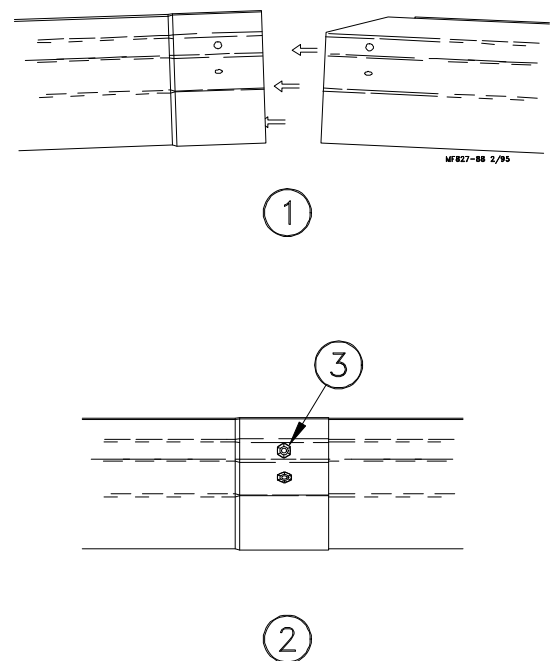

Figure 23. Trough Connection Diagram (Side View)
6. Install a Hanger at the next trough joint. Slide the straight end of the trough into the belled end of another section of trough, as shown in Figure 23.
7. The trough sections are factory punched for (4) 10-24 bolts and locking nuts. See Figure 23.